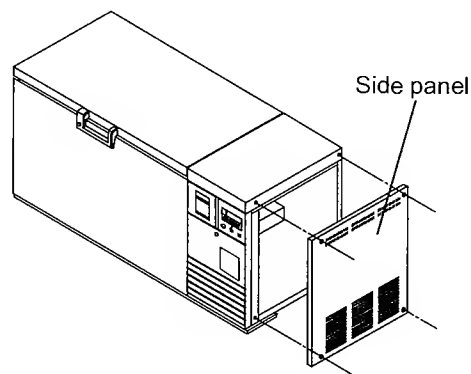

Fig. 2
2. As shown in the Fig.2, remove 4 fixing screws on the side panel and remove the side panel.
2. Pull the cartridge out of the mounted position. (Fig. 2)